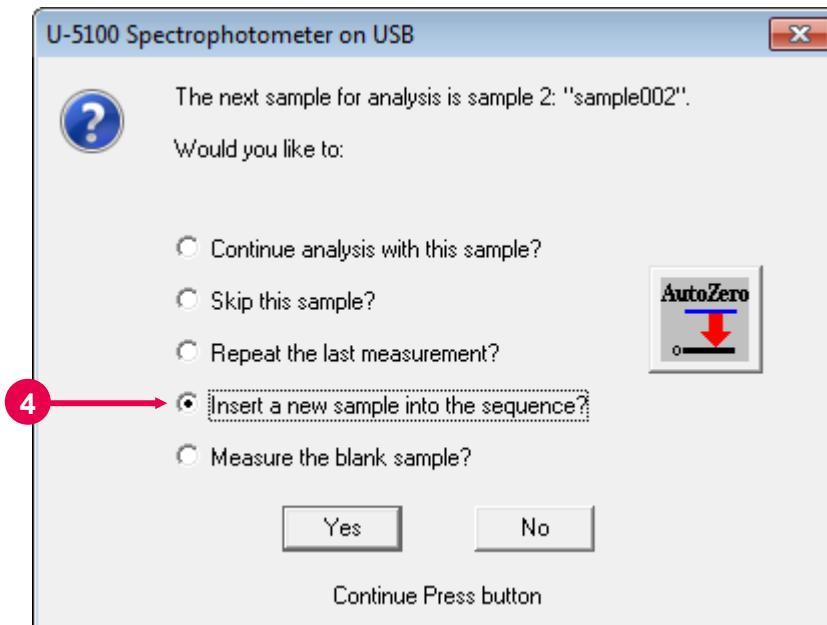

Fig. 7-11
For interrupt measurement, select “Insert a new sample into the sequence” as shown in Fig. 7-11 and then click the **Yes** button (refer to (4) in Fig. 7-11).